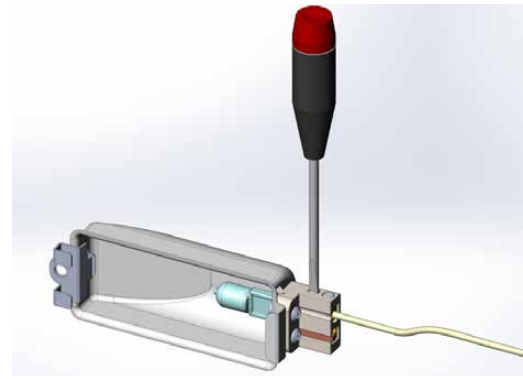

Figure 11
3. If needed, use a small flat-blade screwdriver to carefully pry off the lens and set aside. Loosen the 2 screws closest to the lamp housing (Fig. 11). These screws hold the bulb in place. The bulb should come out easily.